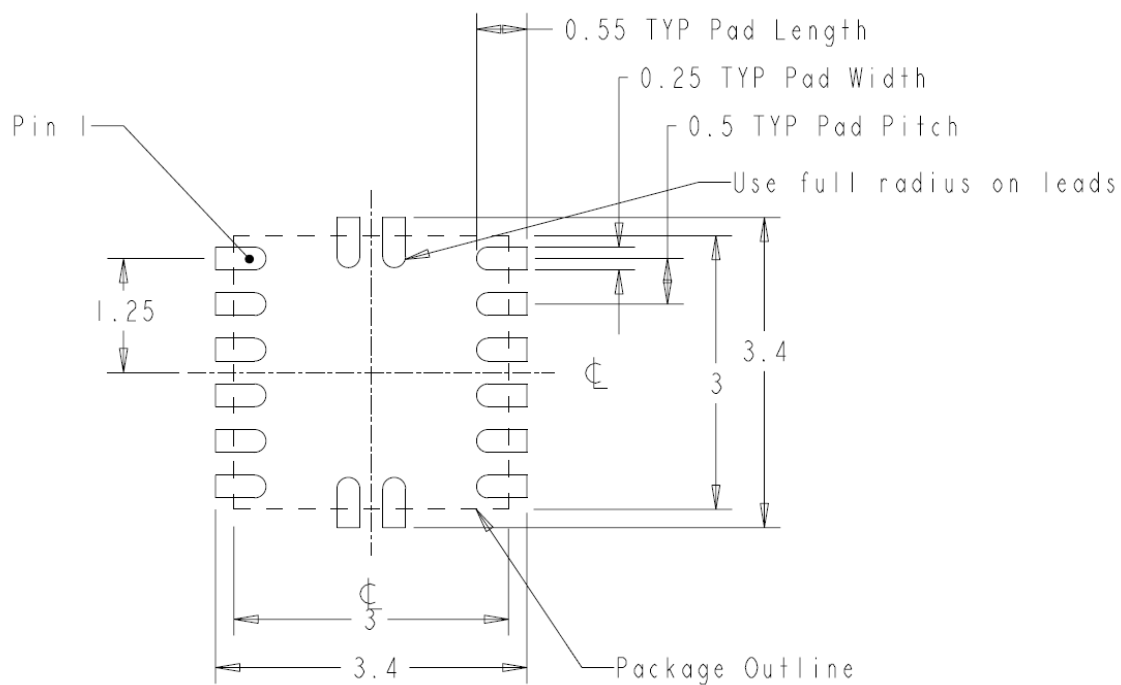

**Figure 6: Top PCB Layer Critical Components and Copper for Minimum Footprint**
Figure 6 shows critical components and layer 1 traces of a recommended minimum footprint EP53F8LQI/EP53F8HQI layout with ENABLE tied to  $V_{IN}$ . Alternate ENABLE configurations, and other small signal pins need to be connected and routed according to specific customer application. Please see the Gerber files on the Altera website [www.altera.com/enpirion](http://www.altera.com/enpirion) for exact dimensions and other layers. Please refer to Figure 6 while reading the layout recommendations in this section.
**Recommendation 2:** Input and output grounds are separated until they connect at the PGND pins. The separation shown on Figure 6 between the input and output GND circuits helps minimize noise coupling between the converter input and output switching loops.
**Recommendation 4:** Multiple small vias should be used to connect the ground traces under the device to the system ground plane on another layer for heat dissipation. The drill diameter of the vias should be 0.33mm, and the vias must have at least 1 oz. copper plating on the inside wall, making the finished hole size around 0.20-0.26mm. Do not use thermal reliefs or spokes to connect the vias to the ground plane. It is preferred to put these vias under the capacitors along the edge of the GND copper closest to the +V copper. Please see Figure 6. These vias connect the input/output filter capacitors to the GND plane and help reduce parasitic inductances in the input and output current loops. If the vias cannot be placed under  $C_{IN}$  and  $C_{OUT}$ , then put them just outside the capacitors along the GND. Do not use thermal reliefs or spokes to connect these vias to the ground plane.
**Recommendation 5:** AVIN is the power supply for the internal small-signal control circuits. It should be connected to the input voltage at a quiet point. In Figure 6 this connection is made with RAVIN at the input capacitor close to the  $V_{IN}$  connection.